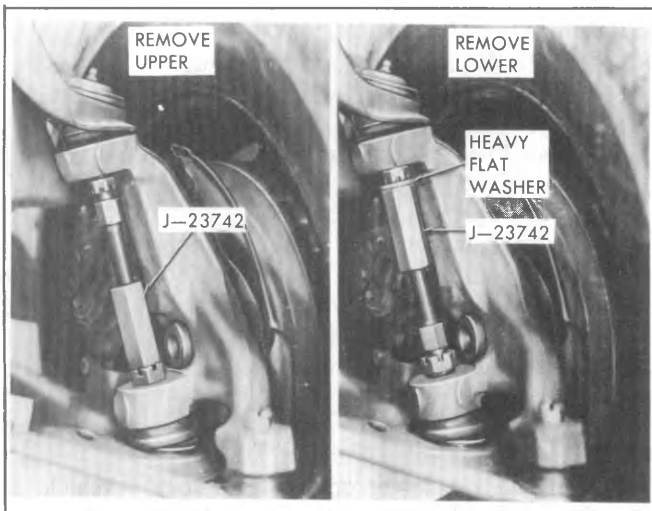

Fig. 3C-27--Disconnecting Ball Joints—Typical
- CAUTION:** Be sure spacer J-24435-6 is in position as shown in Figure 3C-26 to avoid collapsing control arm during assembly.